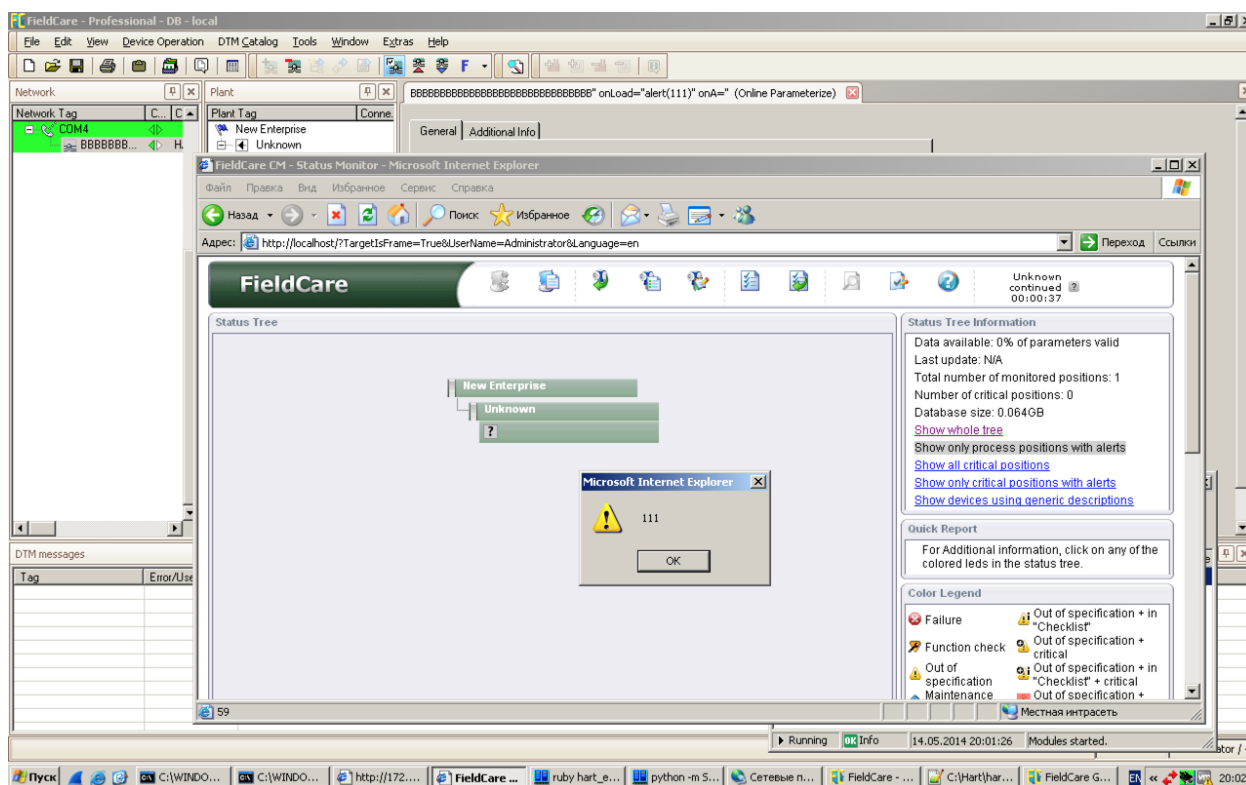

Figure 18: XSS in FieldCare CM
– this will trigger an XSS in CM, as shown on fig. 18: